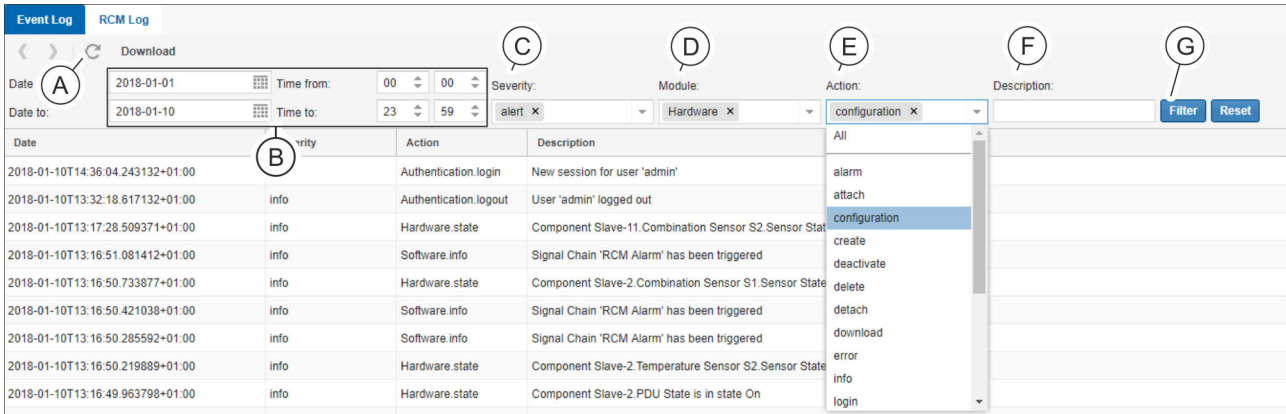

Fig. 120: Set filter
- Date and time (Fig. 120/A)
- Severity (Fig. 120/C)
- Module (Fig. 120/D)
- Action (Fig. 120/E)
- Description (Fig. 120/F) (free text field)
2. Click the “Filter” button (Fig. 120/G).